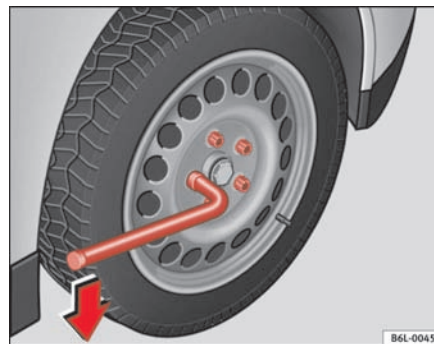

Fig. 122 Changing the wheel: loosen the wheel bolts
- Grasp the box spanner by the end turn it about one full turn to the **left** ⇒ **fig. 122**.